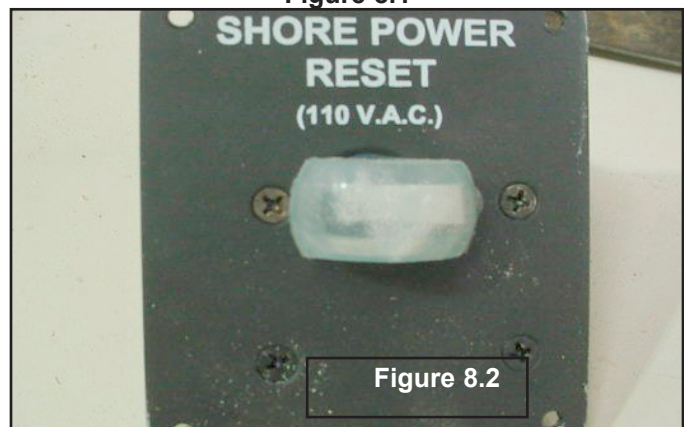

Figure 8.2
- Turn off shore power inlet breaker. (See Figure 8.2)